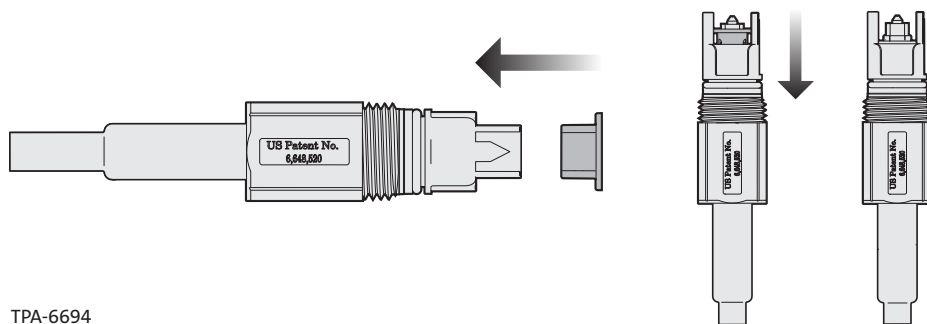

Figure 17
Step 4: Place the retainer clip over the converter housing, ensuring that it clears the front of the connector and snaps in place. Once it is snapped in place it cannot be removed (Figure 17).